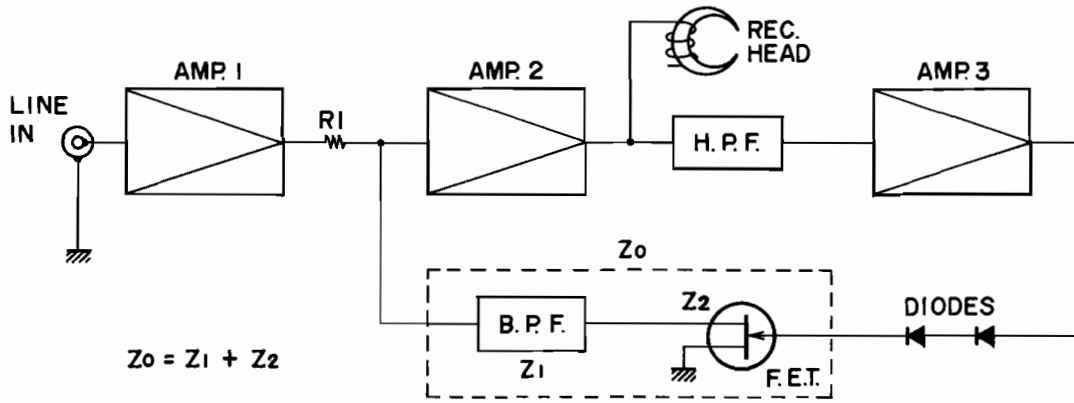

Fig. 41 A.D.R. BLOCK DIAGRAM
1. The A.D.R. Block Diagram is as shown in Fig. 41, and A.T.T. is comprised of R_1 and Z_0 .
7. At this time, as shown in Fig. 41, the Amp. 2 output passes the H.P.F., is amplified at Amp. 3, and this output is rectified at the diodes.